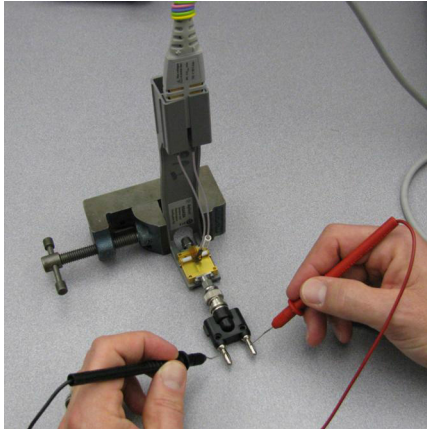

Figure 70 Measuring the differential input resistance of a ZIF or solder-in probe head
- 1 Connect the BNC to SMA adapter and BNC to Banana Plug adapters as shown in **Figure 70**.
- 4 Connect the ZIF or solder-in probe head to the probe amp and insert it into the PV fixture as shown **Figure 70**.
- 6 As shown in **Figure 70**, measure the DC input resistance between the banana plugs. Since one tip wire is connected to the signal line and the other tip is connected to the PV fixture ground, this is a measurement of the differential input resistance. It should be 100 kOhms +/- 2% (98 to 102 kOhms).